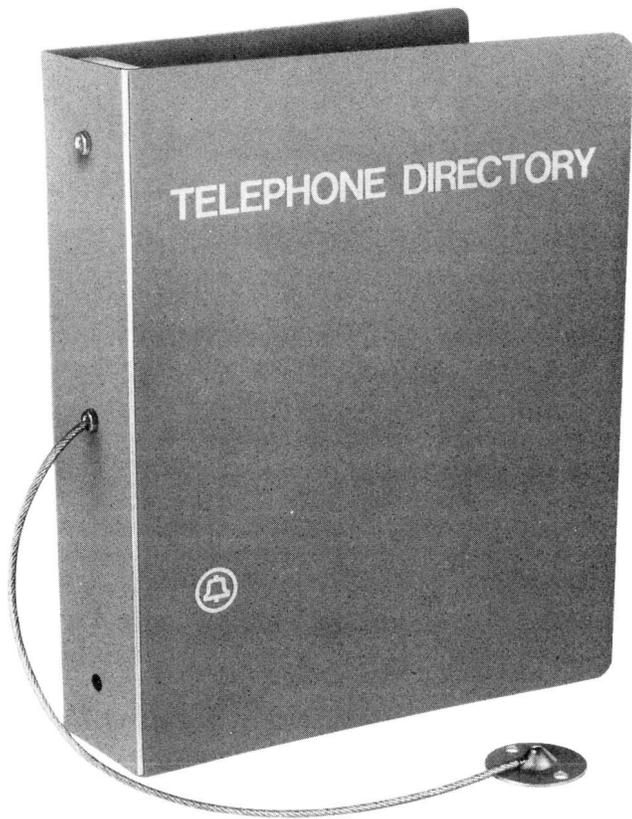

Fig. 18—Universal Binder With Lanyard
- (1) Insert a short piece of rod in top hinge. Tap the rod lightly to drive hinge fastener (hinge shaft) out the bottom.
- (2) Position new cover and replace hinge fastener from bottom (bottom end of fastener has a notch 1/4-inch from end). Do not invert.
**4.08** Universal binders (Fig. 18 through 20) are polyethylene covered self-hinging binders with capacities from 1/2-inch to 3 inches.
**4.10** Binders can be obtained with a lanyard (Fig. 18) and attached to a flat surface. Lanyards are available in two different lengths: